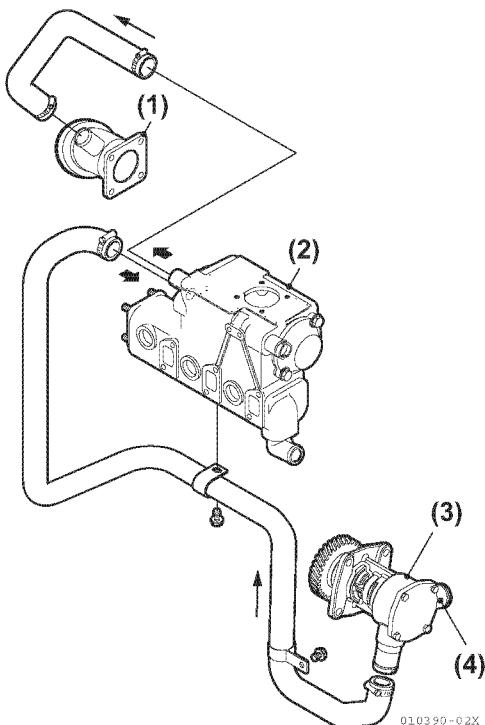

Figure 5-176
• For 3JH4 install the seawater pipes with the hose clips (**Figure 5-176**).